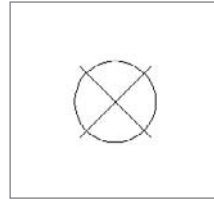

Figure 13.3
5. The drawing contains a series of markers that have been placed as guides for placing sanitary manholes (see Figure 13.3). Click the `Draw Pipes and Structures` button. At